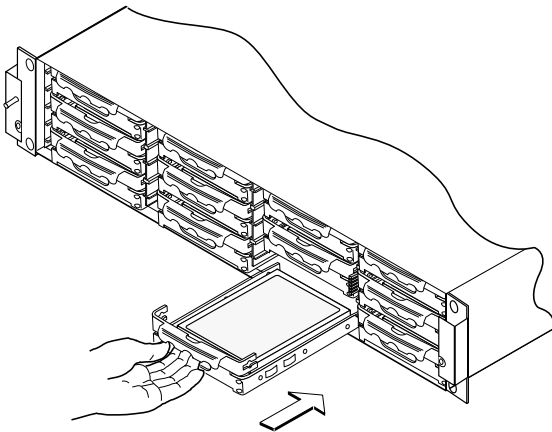

Figure 3-9 Installing a Disk Drive
- 2 Slide the drive carrier over the disk drive so that the handle of the drive carrier curves down and is facing you. See Figure 3-9.
- 1 Align the drive carrier rail with the grooves in the drive bay. See Figure 3-9.